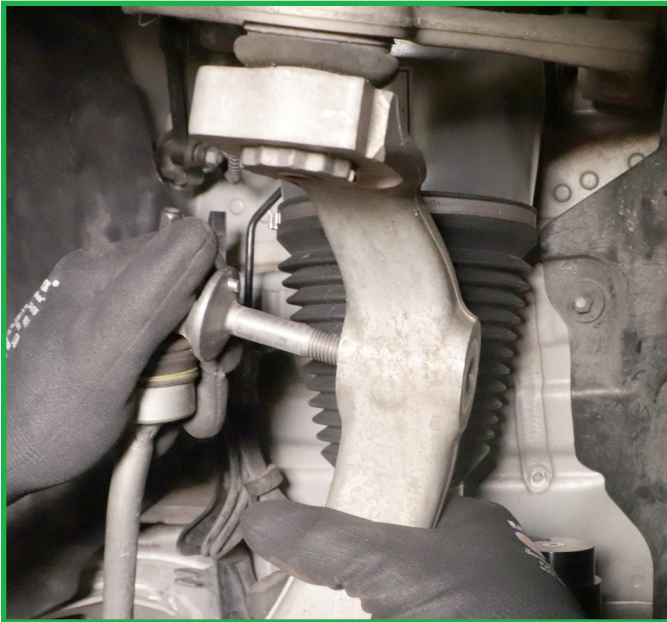

FIGURE 17
4. Reconnect the sway bar end link and reinstall the sway bar end link washer and nut. Tighten to manufacturer's specifications. (Figures 17, 18, 19)